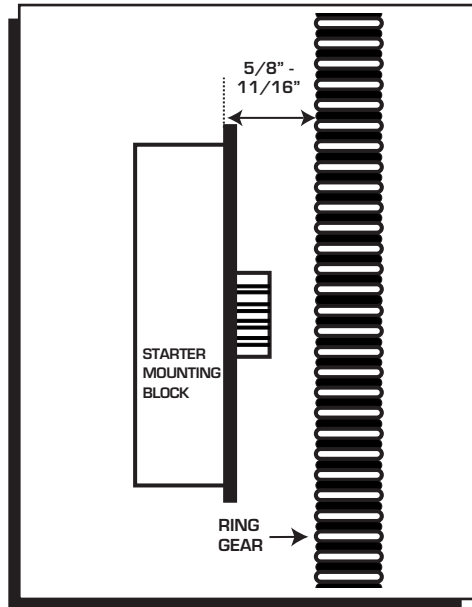

Figure 2 Checking Pinion Clearance.
2. Before mounting the starter, measure the distance from the front of the ring gear (engine side) to the starter mounting surface. It should be 5/8" - 11/16" (Figure 2).